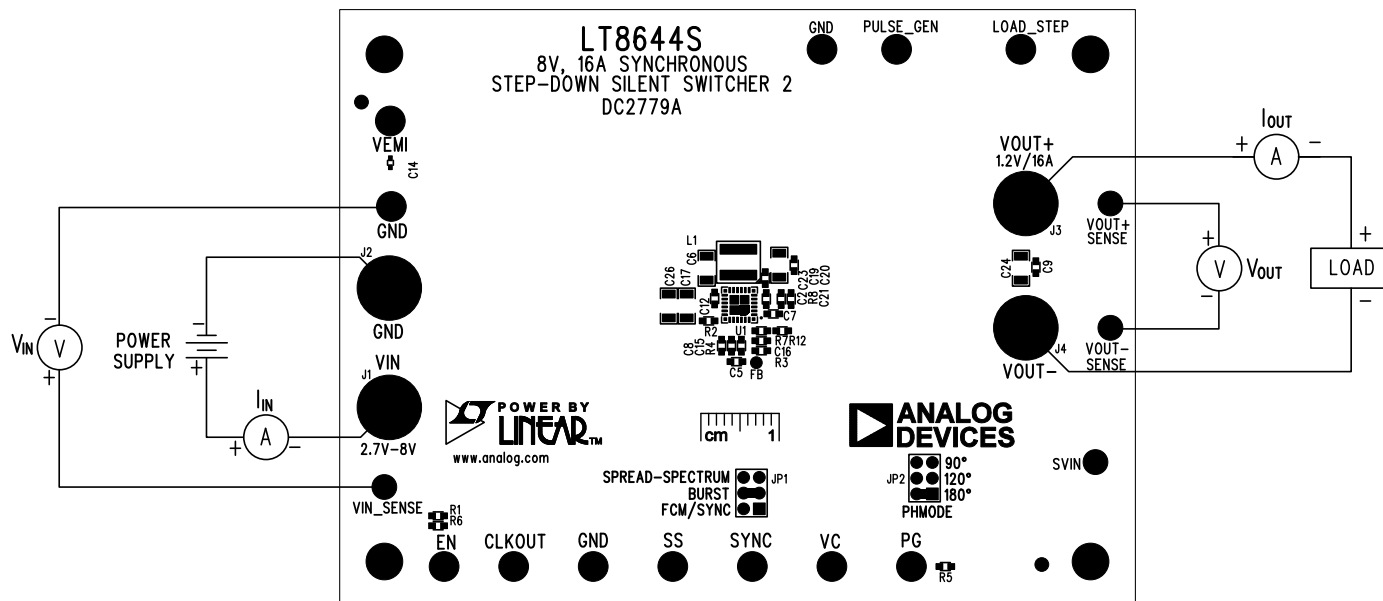
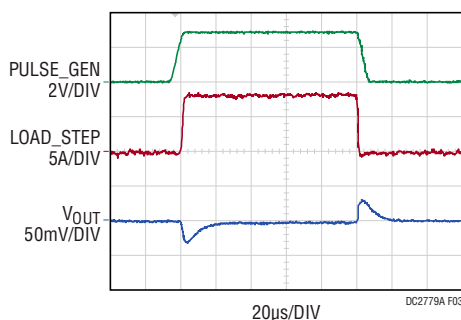

Figure 1. Proper Measurement Equipment Setup
Figure 3. LT8644S Demo Circuit DC2779A Transient Response ( $V_{IN} = 5V$ , 4A to 12A Load Step)
Demonstration circuit 2779A is easy to set up to evaluate the performance of the LT8644S. Refer to Figure 1 for proper measurement equipment setup and follow the procedure below:
9. To test the transient response, connect a signal generator to PULSE GEN terminal, and add a desired base load between  $V_{OUT+}$  and  $V_{OUT-}$  (LOAD shown on Figure 1). Adjust the signal generator with a 2ms period, 5% duty cycle and an amplitude from 1V to 2V to start. Measure the LOAD STEP voltage to observe the current ( $I_{LOADSTEP} = V_{LOAD\_STEP}/10m\Omega$ ). Adjust the amplitude of the pulse to provide the desired transient. Adjust the rising and falling edge of the pulse to provide the desired ramp rate. Figure 3 shows a load step from 4A to 12A. The 4A base load is added between  $V_{OUT+}$  and  $V_{OUT-}$ , while the 8A step load is controlled by the signal generator at PULSE\_GEN and measured at LOAD\_STEP with 0.01V/A ratio.